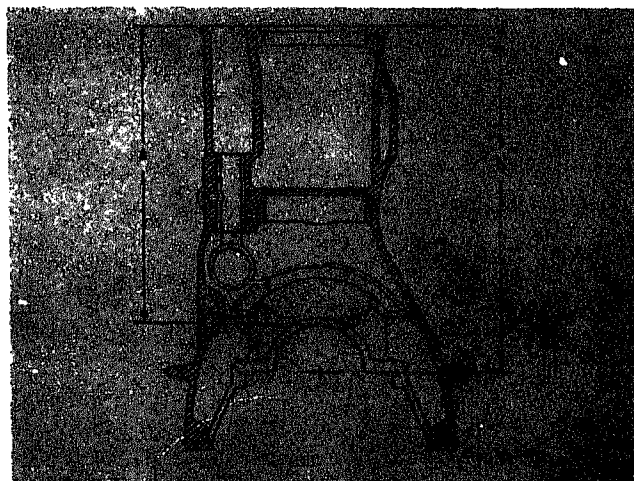

Fig. 1-1-17. Cylinder block height
3. Check distance from centerline of main bearing bore to top of block, Figs. 1-1-17 and 1-1-18.
**Table 1-1-11: Cylinder Block Height From Main Bearing Centerline (B, Fig. 1-1-17)**
**Table 1-1-12: Cylinder Block Height From Alignment Bar (A, Fig. 1-1-17)**